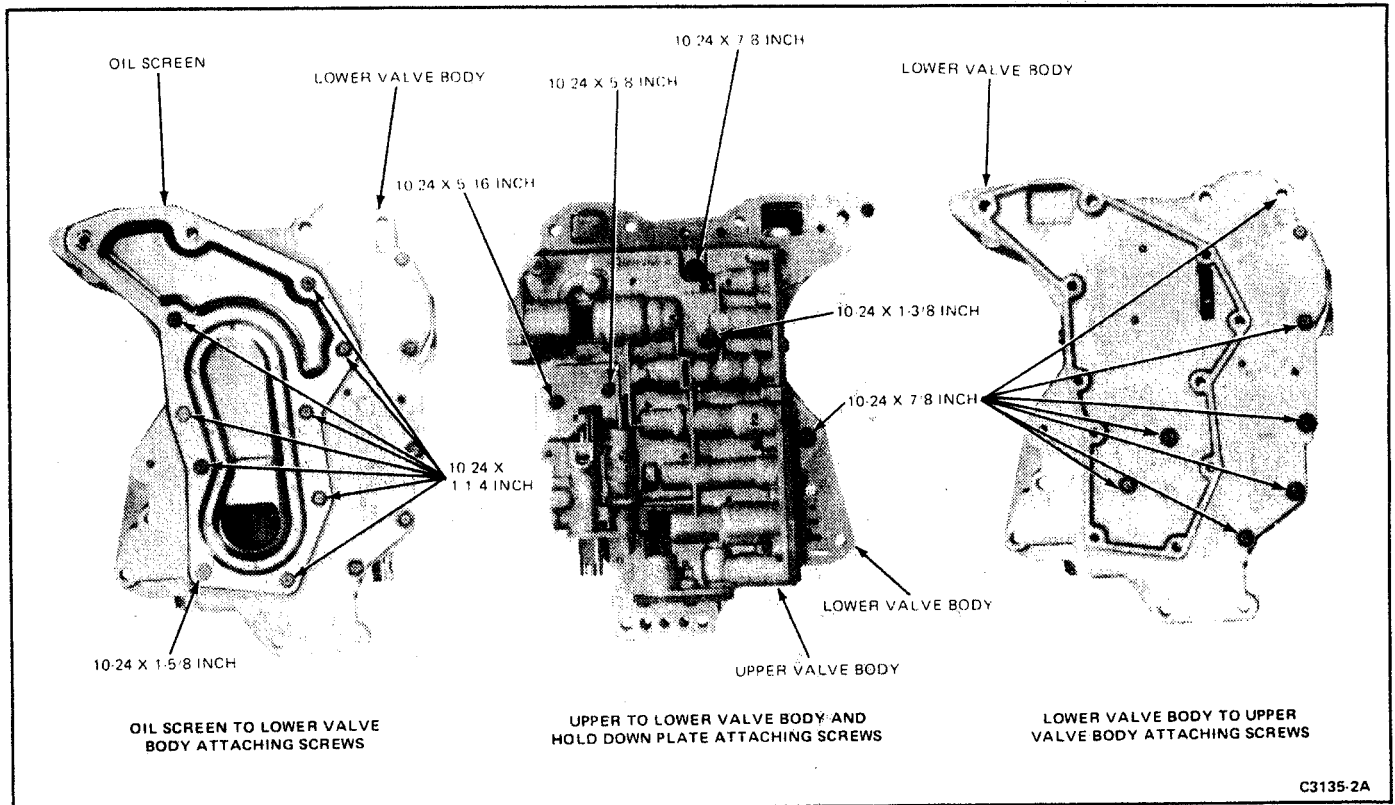
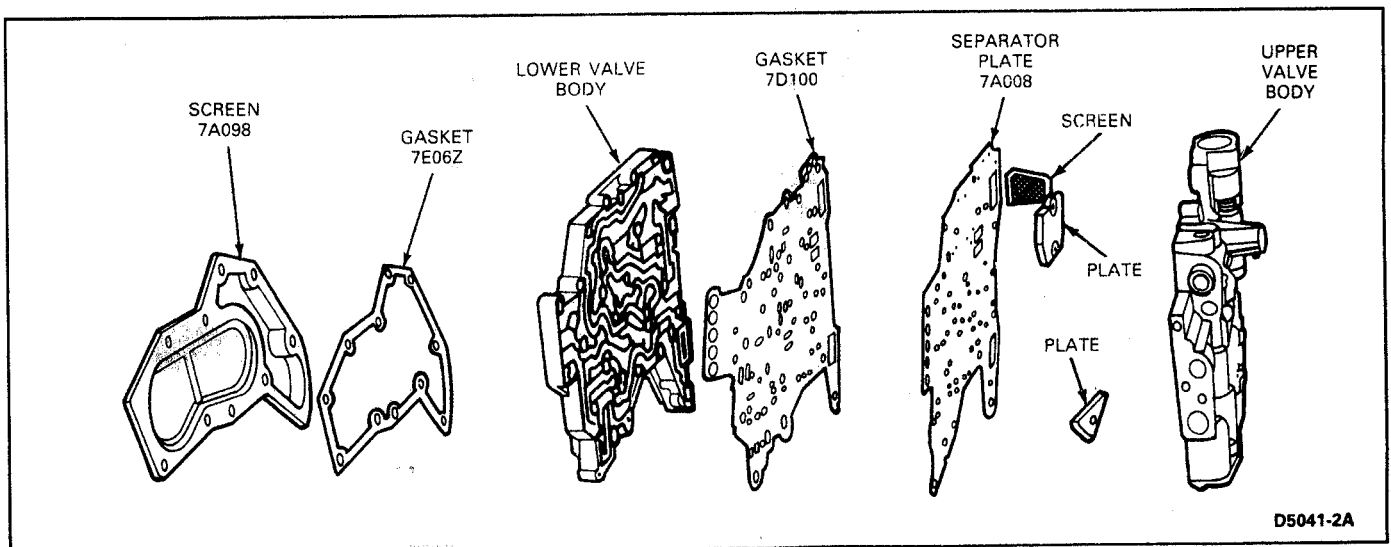

FIG. 25 Control Valve Body and Screen Attaching Screws
FIG. 26 Upper and Lower Valve Bodies Disassembled
1. Remove the nine screws that attach the screen to the lower valve body (Fig. 25) and remove screen and gasket (Fig. 26).
2. Remove the five upper-to-lower valve body and hold-down plate attaching screws. Remove the seven attaching screws from the underside of the lower valve body (Fig. 25).
3. Separate the bodies and remove the separator plate and gasket. **Be careful not to lose the check valves and springs.** Remove and clean the separator plate screen if necessary (Fig. 26).
4. Place the lower body and plate assembly on the upper valve body (Fig. 25) and install the attaching screws finger tight.
7. Remove the oil screen attaching screws and place the gasket and oil screen in position on the lower valve body. Re-install the screen attaching screws (Fig. 25).